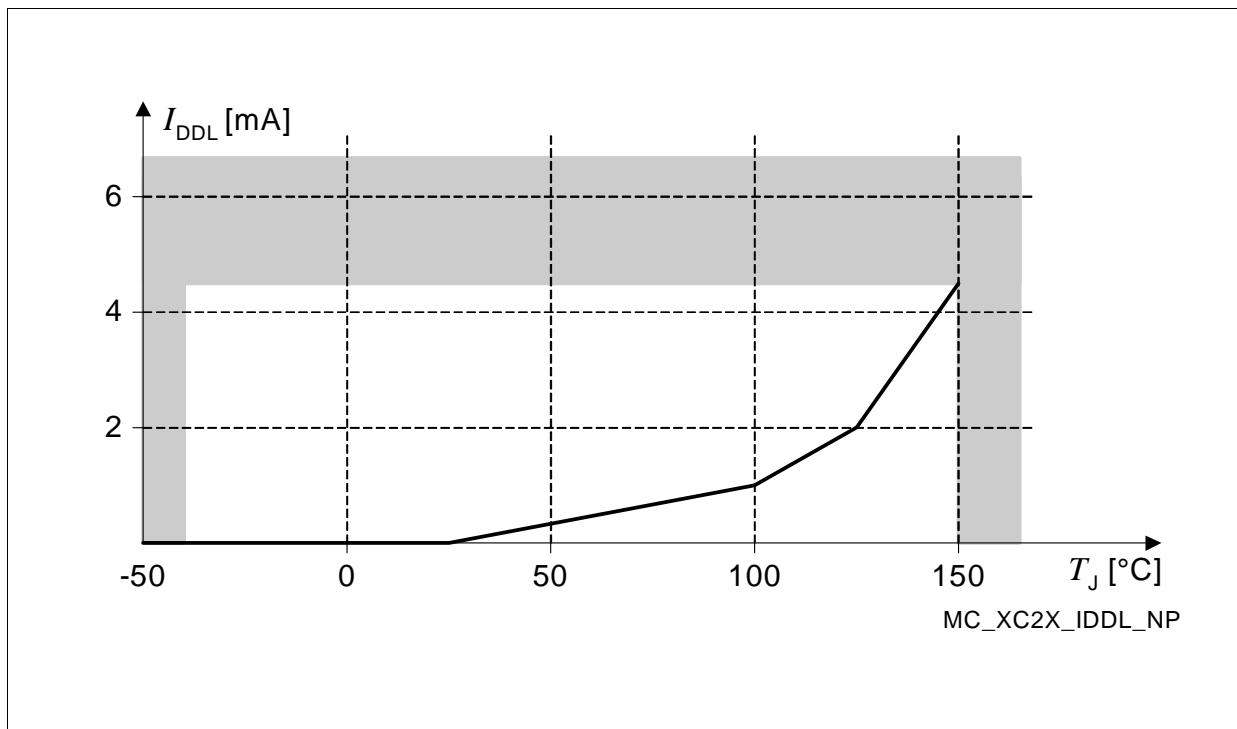

Figure 12 Leakage Supply Current as a Function of Temperature
- 1) The supply current caused by leakage mainly depends on the junction temperature (see Figure 12) and the supply voltage. The temperature difference between the junction temperature  $T_J$  and the ambient temperature  $T_A$  must be taken into account. As this fraction of the supply current does not depend on the device's activity, it must be added to each other power consumption parameter.